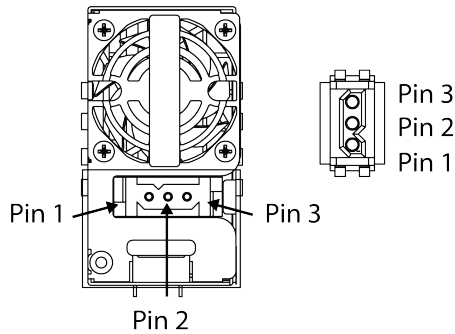

Figure 30: Connecting the DC Power Cord
3. Position the DC power cable connector so that the wide, flat side is closest to the fan, as shown in Figure 30. The DC power cable connector can only connect to the power supply one way.